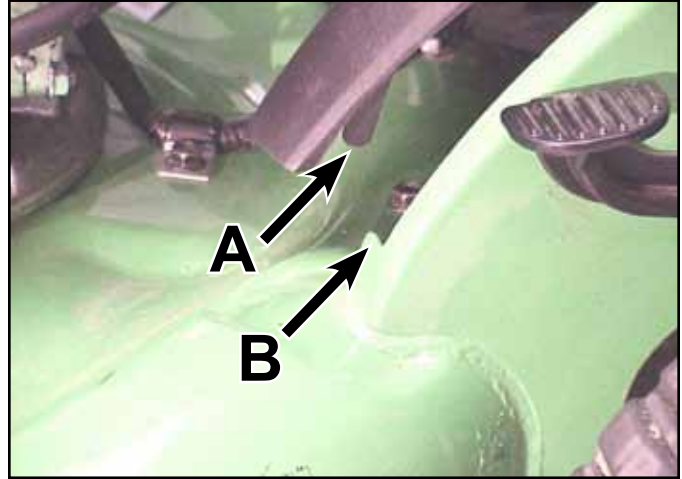

Fig 113
- When installing the rear cover, note the bosses on the back side of the cover. They must go behind the notch in the chassis to secure the cover. The top of the cover is retained with screws (Fig. 113).